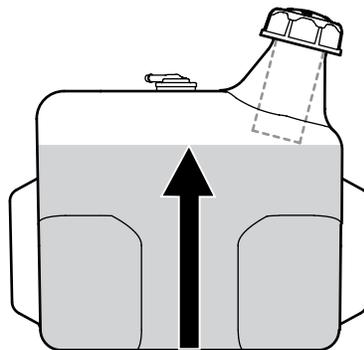

Figure 2-10
2. Fill the fuel tank with gasoline. Use only clean, fresh (no more than 30 days old), unleaded gasoline. Fill tank to no more than  $\frac{1}{2}$ " below bottom of filler neck to allow space for fuel expansion. See Figure 2-10.
**Important:** Do not overfill the tank. Fill tank to no more than  $\frac{1}{2}$ " below bottom of filler neck to allow space for fuel expansion. See Figure 2-10.